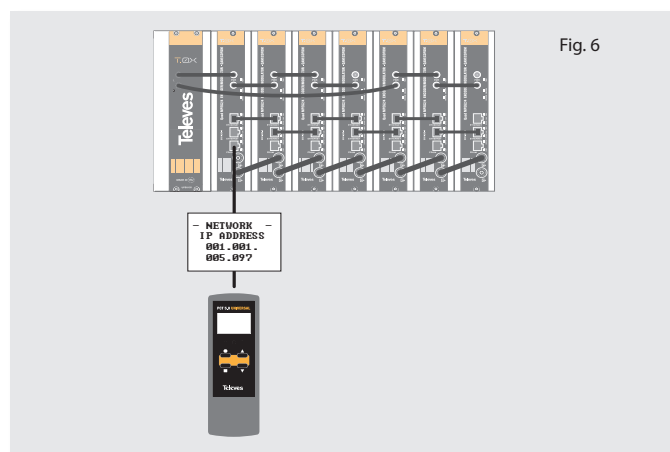

Fig. 6
6. Connect the programmer to a unit, usually the first one, and read the IP address (Figure 6).